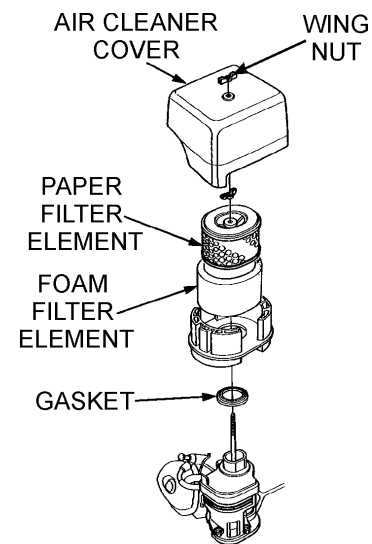

Figure 31. Engine Air Cleaner
1. Remove the air cleaner cover and foam filter element as shown in Figure 31.
2. Tap the paper filter element (Figure 31) several times on a hard surface to remove dirt, or blow compressed air [not exceeding 30 psi (207 kPa, 2.1 kgf/cm²)] through the filter element from the air cleaner case side. **NEVER** brush off dirt. Brushing will force dirt into the fibers. Replace the paper filter element if it is excessively dirty.